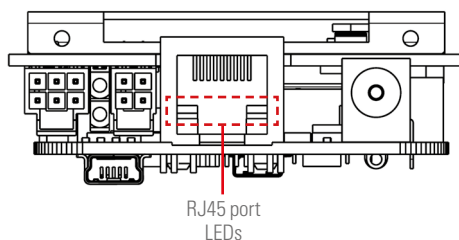

Fig. 5. Connection of the RJ-45 cable
3. Connect one end of an RJ45 cable to the card and the other end to the Ethernet socket. The RJ45 port lights on the card should light up. See Fig. 5.